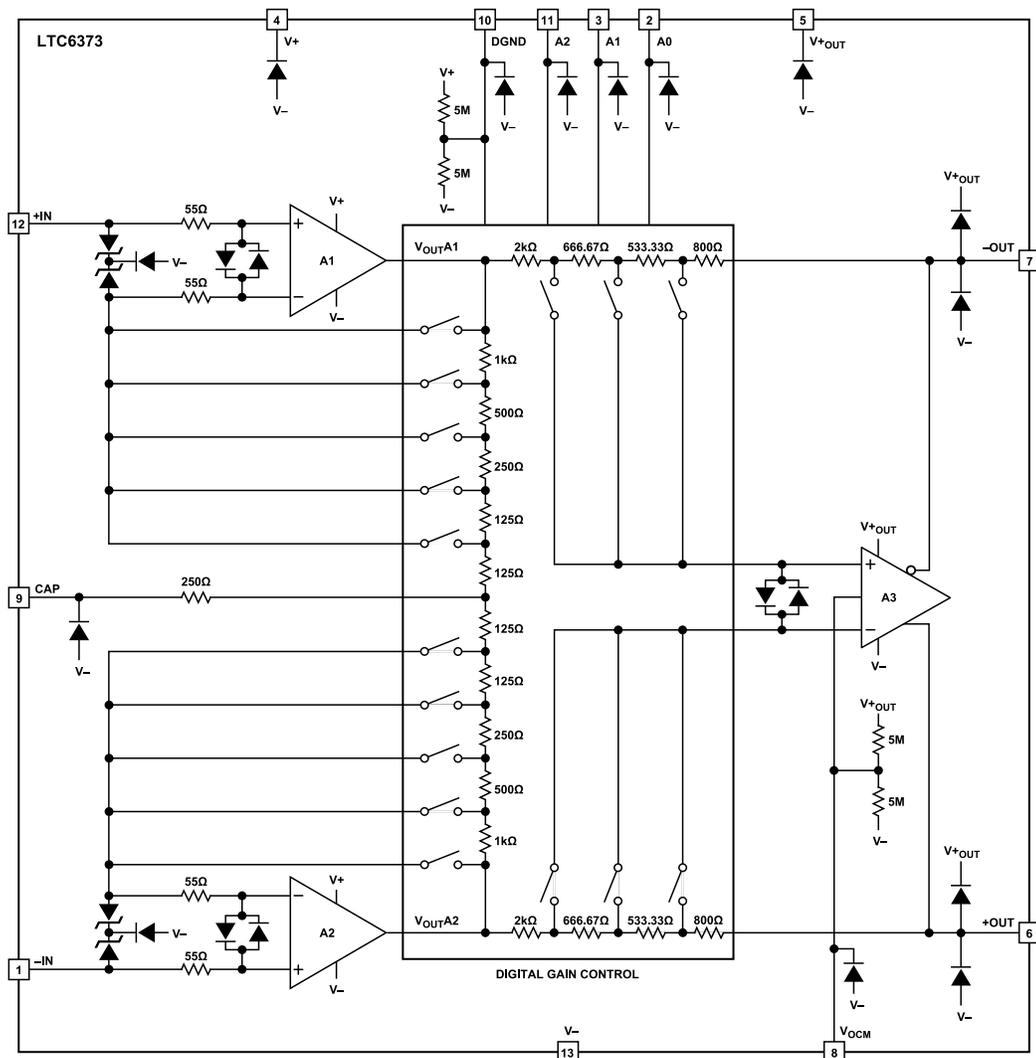
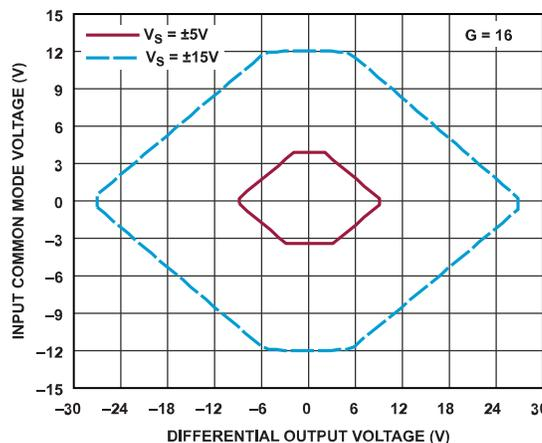
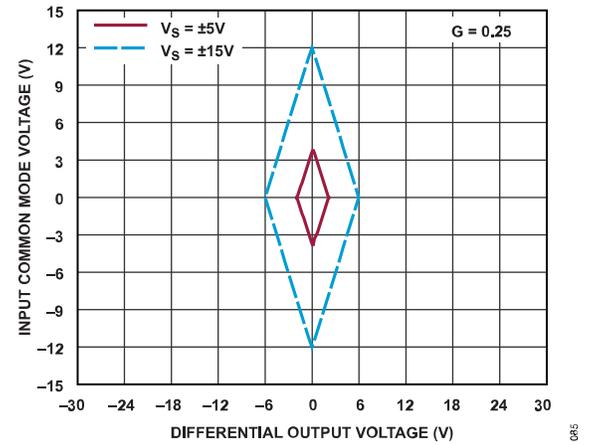

Figure 76. Simplified Block Diagram
Figure 78. Input Common Mode Range vs. Differential Output Voltage at G = 16 with No Load
Figure 84. Input Common Mode Range vs. Differential Output Voltage at G = 0.25 with No Load
The LTC6373 is a monolithic instrumentation amplifier based on the classic 3-op-amp topology, as shown in the Block Diagram of Figure 76. A parallel interface allows users to digitally program gains to one of the seven available settings ($G = 0.25, 0.5, 1, 2, 4, 8,$ and 16 V/V) while the 8th state puts the part in shutdown mode (which reduces the current drawn from the supplies to $220 \mu\text{A}$). Gain control is achieved by switching resistors in an internal, precision resistor array (as shown in Figure 76). Although the LTC6373 has a voltage feedback topology, the gain-bandwidth product increases at higher gain settings because each gain has its own frequency compensation, resulting in increased bandwidth at higher gains and minimum phase variation across all gains.
Instrumentation amplifiers traditionally specify a valid input common mode range and an output swing range. This however often fails to identify swing limitations associated with internal nodes, as they experience a combination of gained differential signal and common mode signal. Referring to the Simplified Block Diagram of Figure 76, the output swing of amplifiers A1, A2, and A3 as well as the common mode input range of the output differential amplifier A3 impose limitations on the valid operating range. The graphs in Figure 78 to Figure 84 show the maximum input common mode voltage limits where a valid output is produced for each gain setting of LTC6373.
Plots in Figure 78 to Figure 84 show the input common mode voltage (V_{ICM}) range allowed for a given differential output voltage ($V_{OUTDIFF}$), under various combinations of gain (G) and supply (V_S) settings. In each plot, the output stage positive supply pin V^+_{OUT} is tied to the main positive supply pin V^+ , $V_{OCM} = 0$ V (mid-rail) and there is no load.
To prevent damage, the LTC6373 has a comprehensive protection scheme, especially on the input pins, as illustrated in the Simplified Block Diagram of Figure 76. The input current applied to the LTC6373's input pins should be kept under ± 10 mA. To achieve additional input protection, external series resistors and/or low leakage clamp diodes should be used.